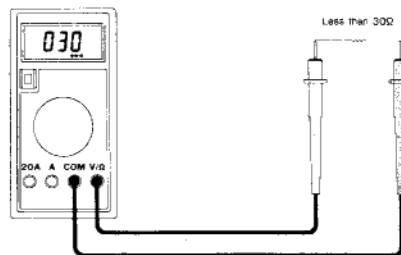

Fig. 5-8 Audible Continuity Test
2. Set the function switch to the  range (same range as diode) and connect test leads across the resistance under measurement. See Figure 5-8.